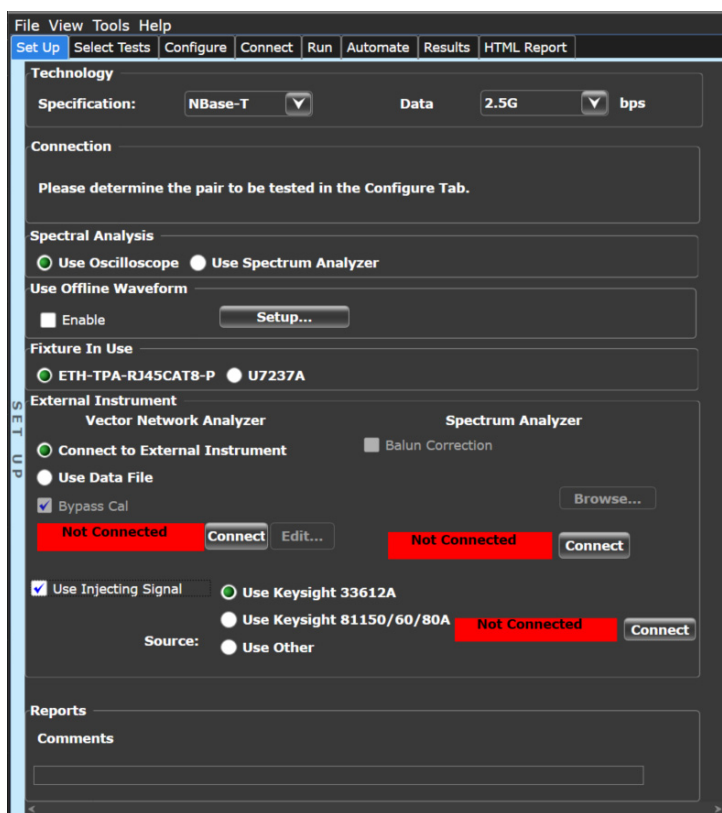

Figure 38 Set Up tab settings for Transmitter Nonlinear Distortion tests using oscilloscope
- 11 Select the **Use Injecting Signal** check-box, as shown in Figure 38, so that the Test Application is able to connect to the waveform generator to run the Transmitter Nonlinear Distortion tests.